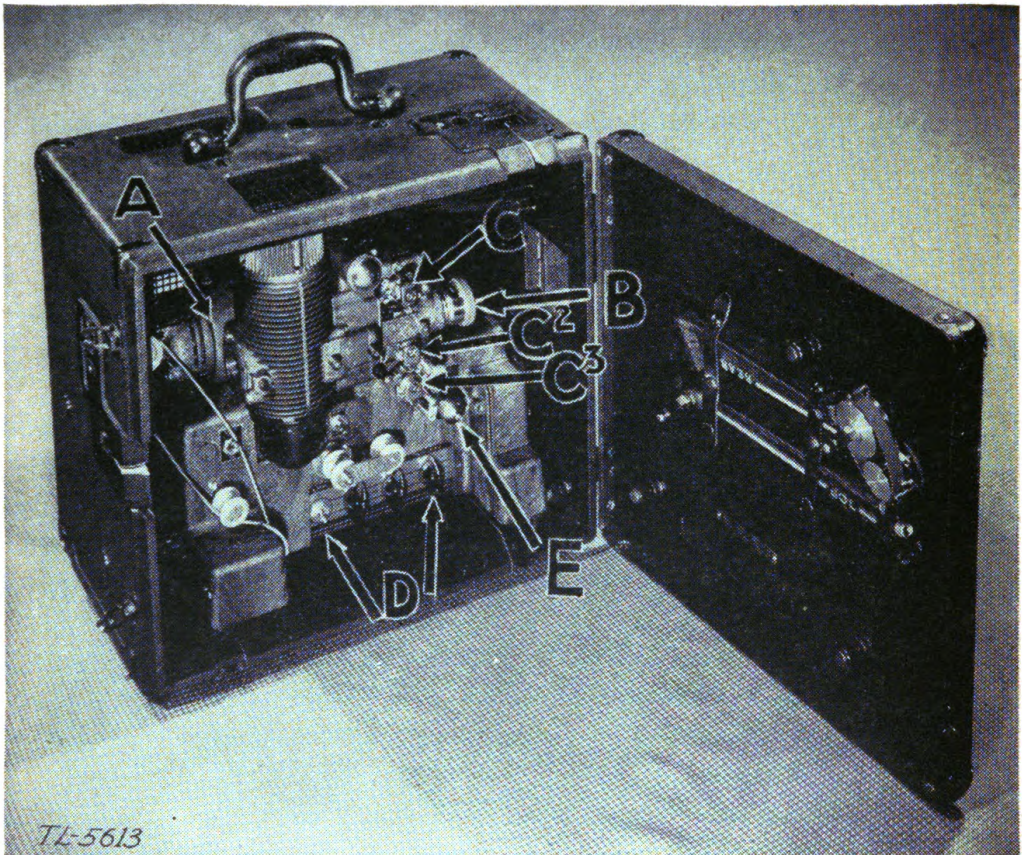
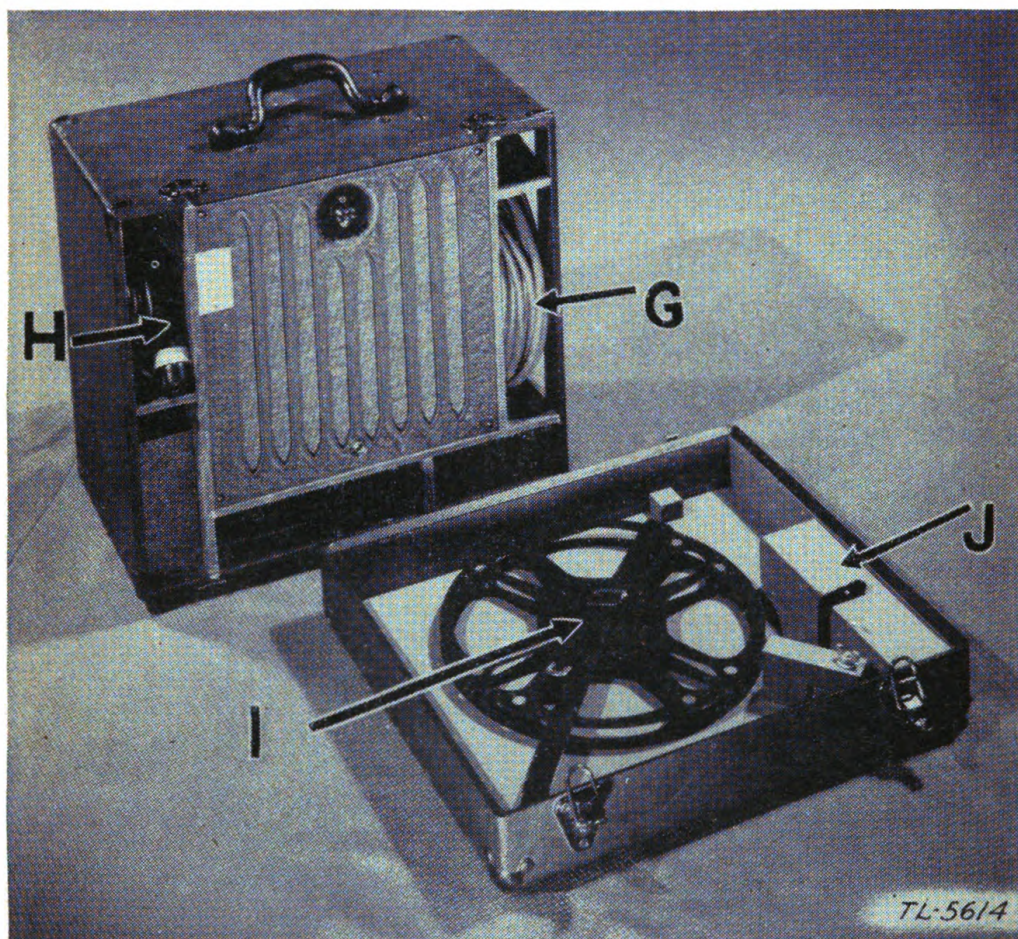

FIGURE 2.—Bell & Howell projector case open showing detachable reel arms in carrying position.
FIGURE 3.—Bell & Howell speaker case open.
2. Types of projectors and screens.—*a.* Four types of 16-mm projectors are used in the Army training program: Ampro YA, Phonofilm, Bell & Howell, and R. C. A. The complete projector usually comes in two cases, a projector case and a speaker case (see fig. 1). The projector case (fig. 2) houses the motor *A*, lens *B*, sprockets *C*¹, *C*², and *C*³, control panel *D*, sound drum *E*, and the projector and exciter lamps. The speaker case houses the speaker, speaker cable *G*, power cable *H*, reel *I*, a tool kit *J*, spare lamps, and extra tubes. (See fig. 3.) The size and weight of the four projector models are shown in the following table: